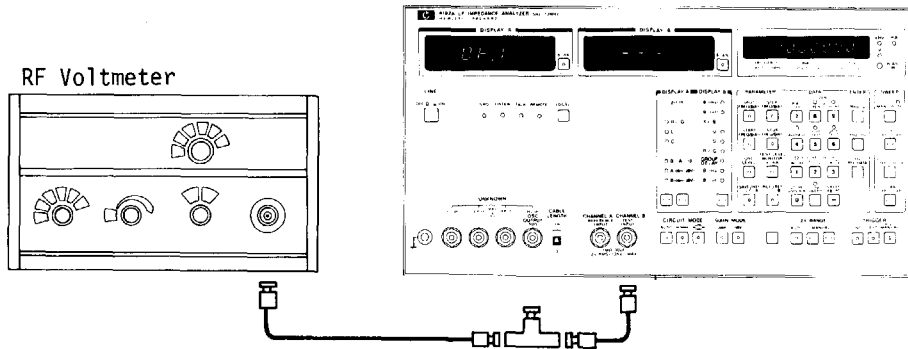

Figure 5-12. A11 IF Amplifier Adjustmne Setup.
- a. Connect the 3403C to the 4192A as shown in Figure 5-12.